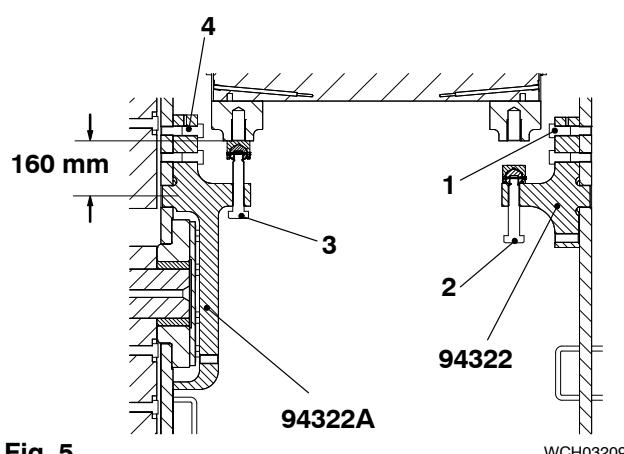

Fig. 5
- 7) Operate the chain block (H3) to lift the crosshead approximately 300 mm above the plug bore center (see Fig. 5) in the column.
Note: Fig. 5 shows an engine with electric Balancer (iELBA). Use two supports 94322 for engines without balancer.
- 9) Attach the two supports (2x 94322 or for iELBA: 1x 94322A and 1x 94322) with the four bolts (1, 4, Fig. 5).